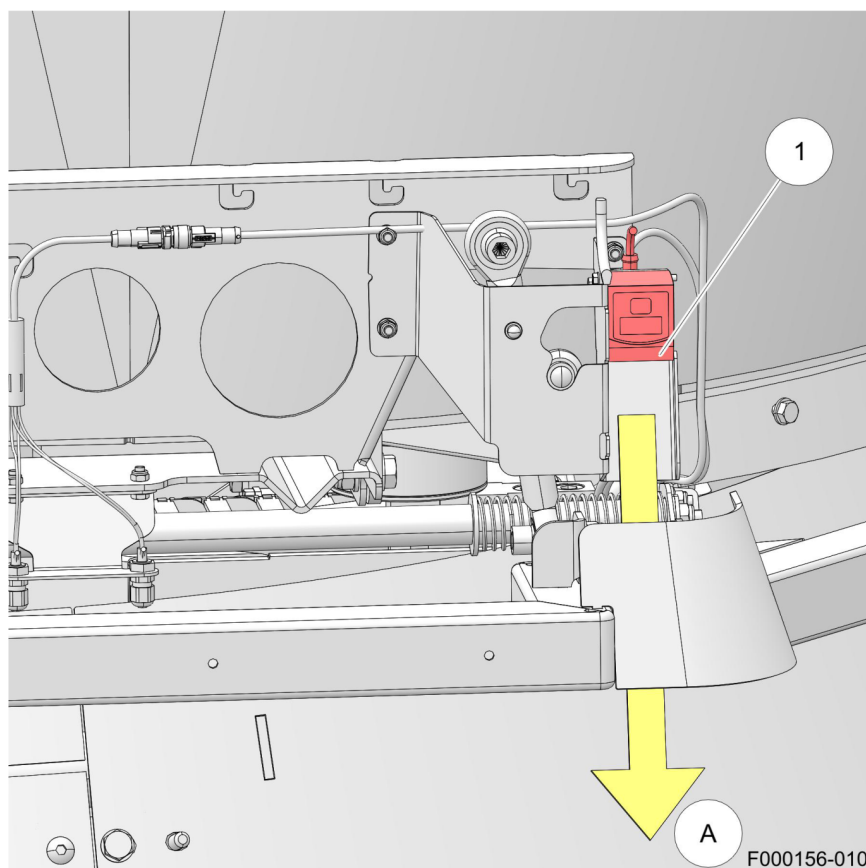

Figure 60. Clean the laser
1. Use a small brush or cloth to remove all dirt and cobwebs under the laser (A) of the feed height sensor (1) (see figure 60 on page 6-9).